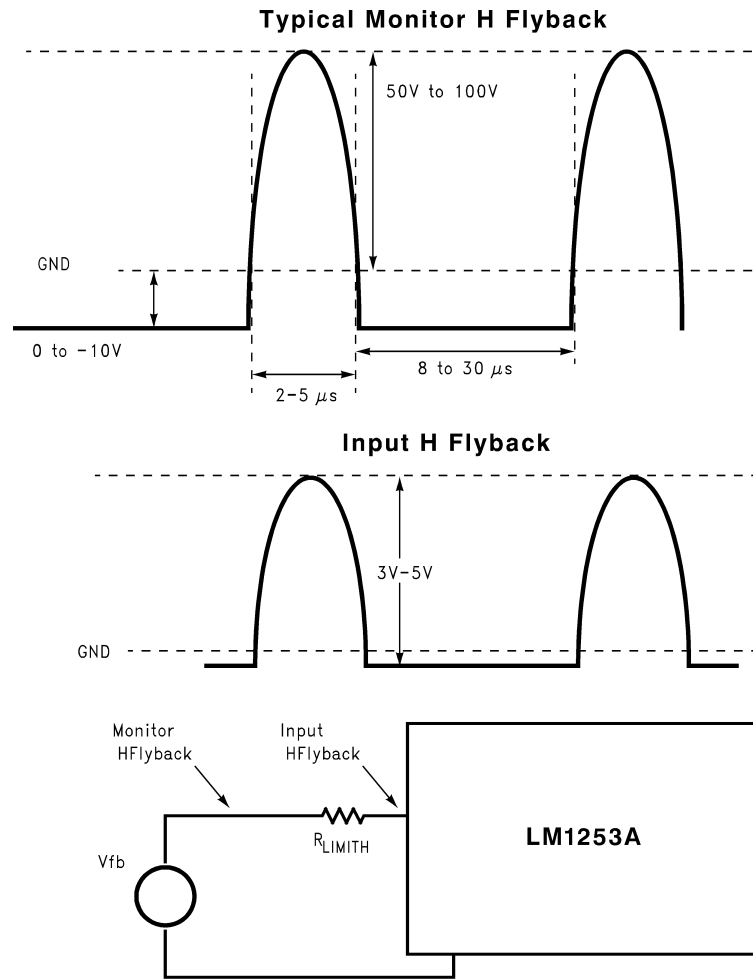

FIGURE 9. H Flyback Input Pulse
**Pin 14—H Flyback** H Flyback is an analog signal input from the monitor horizontal scan. HBLANK is a digital signal derived from the horizontal flyback pulse as shown in *Figure 9*. An optional capacitor and/or resistor to ground may be needed if noise interferes with the H Flyback signal.